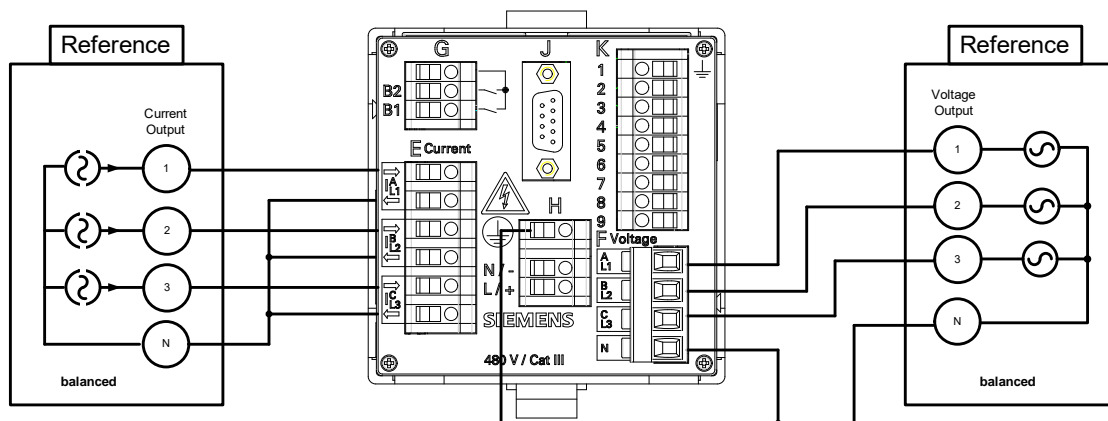

Fig. 10-11 Measurement Setup for Phase Angle
- ✧ Set up the measurement as shown in figure 10-11.